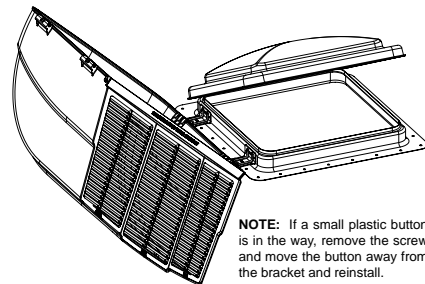

Figure 6
2. With the louvers facing the rear of the vehicle, slide the FANMATE® up against the side of your roof vent or fan as shown in Figure 6. Center the brackets front to back on vent side wall.